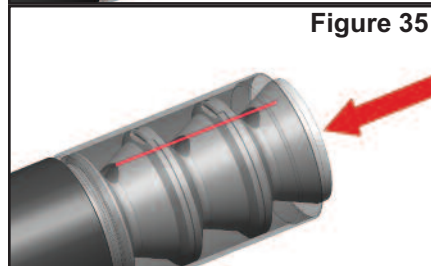

Figure 35
9. The final baffle to install in the front module is the second front baffle. Install it and tab it to the preceding baffle so that the output ports are aligned. See Figure 35.